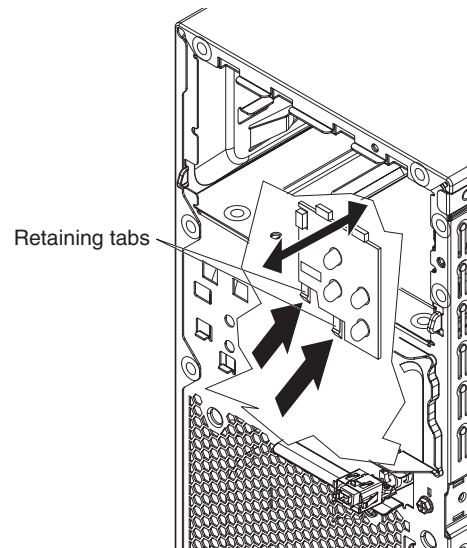

Figure 42. Installing the power switch/LED assembly
1. Insert the upper retaining tabs of the power switch/LED assembly into the openings in the chassis; then, press on the bottom edge of the assembly until the lower retention tabs click into place (see Figure 42).